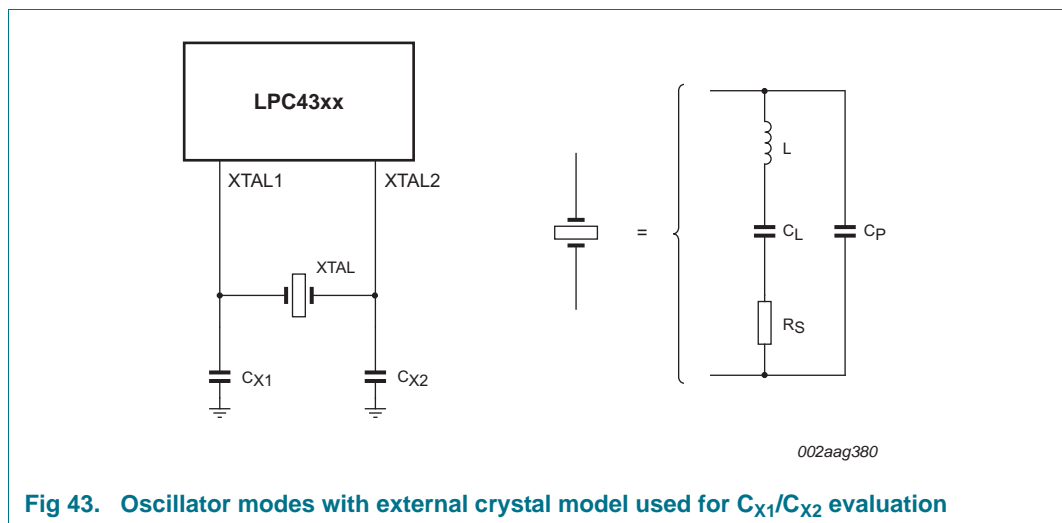

Fig 43. Oscillator modes with external crystal model used for C_{X1}/C_{X2} evaluation
- External components and models used in oscillation mode are shown in Figure 43, and in Table 38 and Table 39. Since the feedback resistance is integrated on chip, only a crystal and the capacitances C_{X1} and C_{X2} need to be connected externally in case of fundamental mode oscillation (L , C_L and R_s represent the fundamental frequency). The capacitance C_P in Figure 43 represents the parallel package capacitance and must not be larger than 7 pF. Parameters F_c , C_L , R_s and C_P are supplied by the crystal manufacturer.